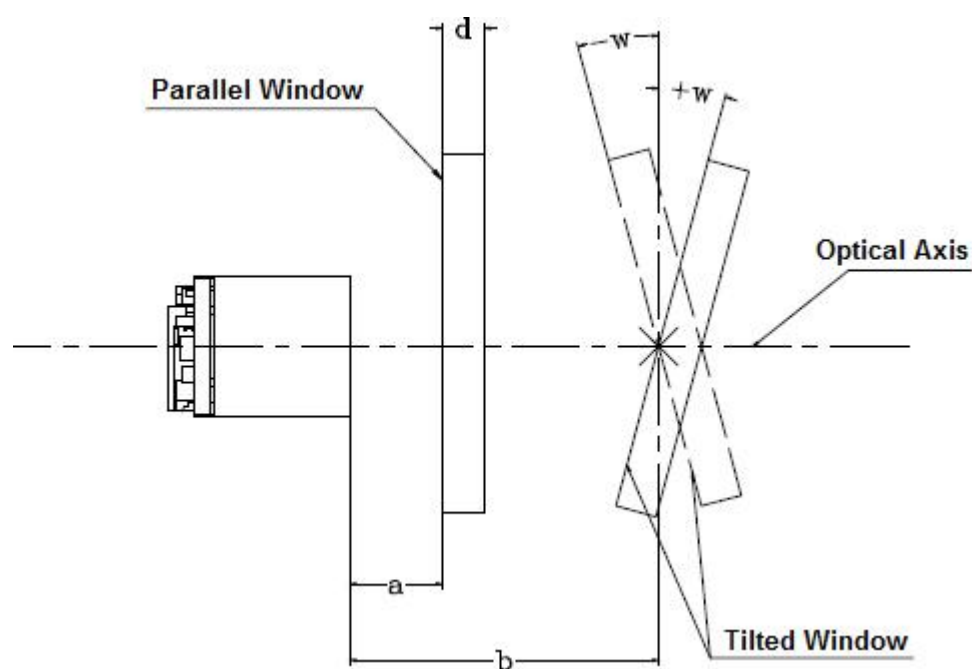

Figure 2-2
- **Parallel window** – Primary option for imager engines. The following window distance requirements should be satisfied: The maximum distance is measured from the front of the engine housing to the furthest surface of the window. In order to reach better reading performance, the distance from the front of the engine housing to the nearest surface of the window should not exceed **a** ($a=0.1\text{mm}$) and the distance from the front of the engine housing to the furthest surface of the window should not exceed **a+d** ($a=0.1\text{mm}$, $d=2\text{mm}$), as shown in **Figure 2-2**.